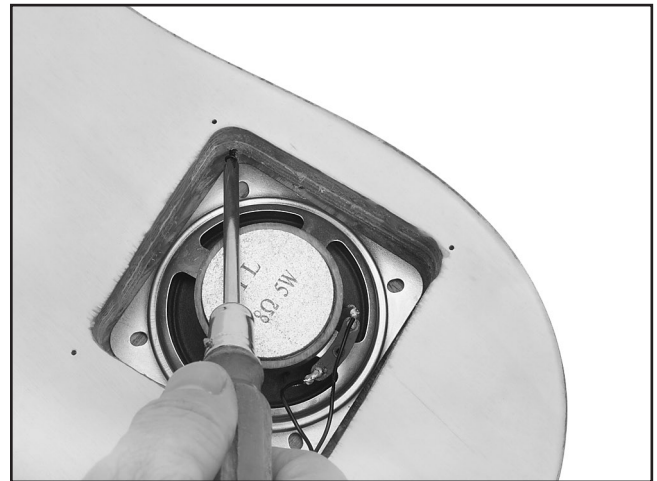

Figure 10. Fastening speaker with screws.
3. Secure the speaker with four #2 x $\frac{1}{4}$ " black screws (see **Figure 10**). Make sure the screws are tight enough that the speaker will not move.